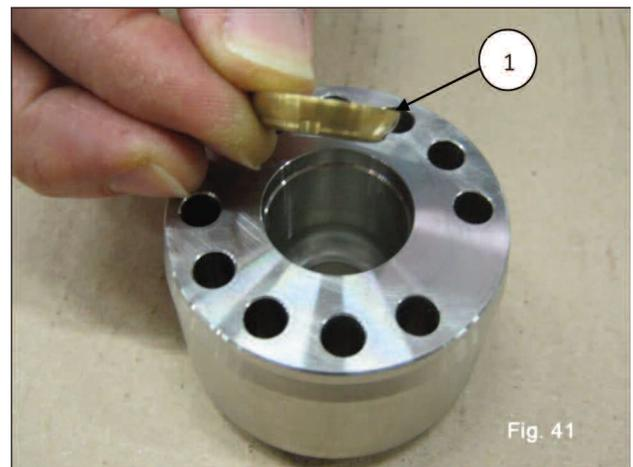
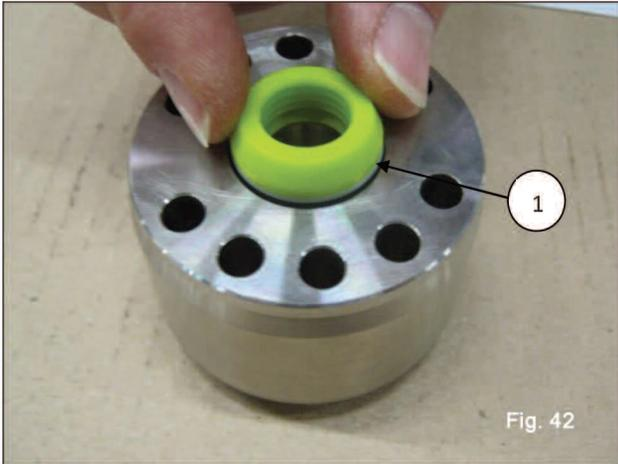
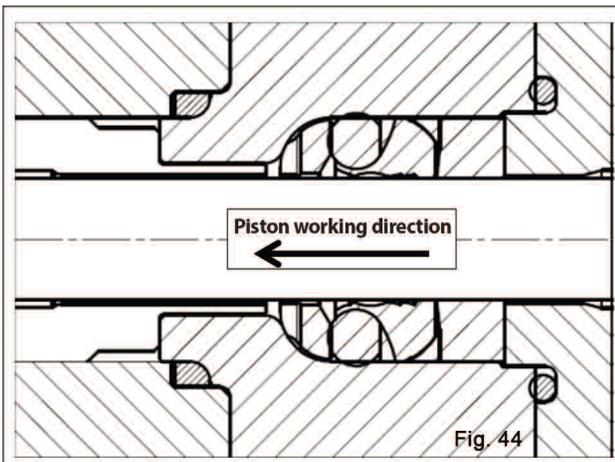

Fig. 41
Fig. 42
Fig. 44
If the valve seats are blocked on the head due to the formation of scale or oxide, they must be freed by inserting the tool (p/n F27508000) into the inlet hole and operating as in fig. 42.
- Introduce in the HP seals support, the head ring (1, fig 41) and then the HP packing; considering the slight interference between the seal and the HP seals support, to avoid damage we advise using a plastic pad (1, fig. 42 and 43).
The HP seal must be inserted into the liner with the energizing O-ring in the working direction of the plunger as shown in fig. 42 and fig. 44.